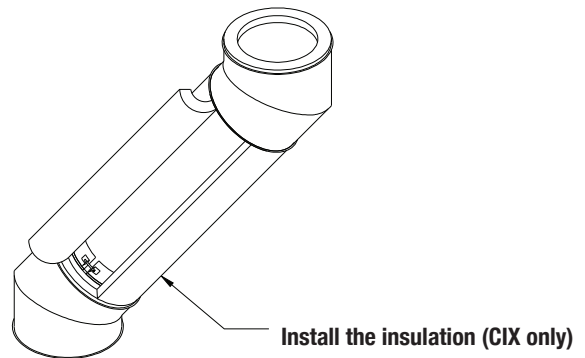

Figure 64 - Variable length, Installation step F
- f. Install the insulation over the inner wall (CIX only). See **figure 64**.
- g. Install the split outer casing by inserting the crimped end under the male coupling first. Tighten the bolts and install the locking bands of downstream and upstream parts. See **figure 64**.